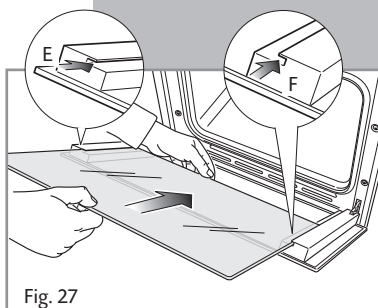
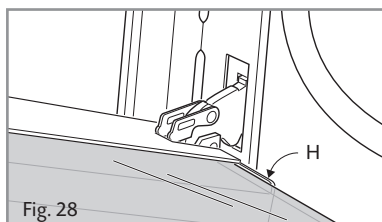

Fig. 27
Fig. 28
- Insert the pane in the left **E** and right **F** slide guides (fig. 27), and gently slide it to the retainers **H** (fig. 28).